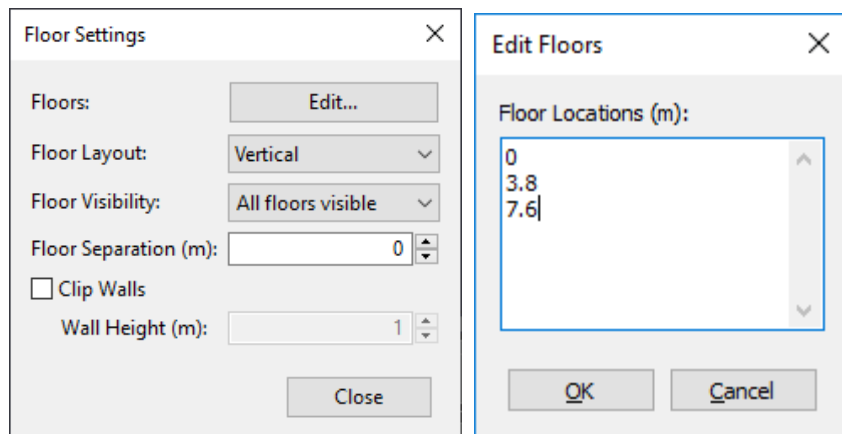

Figure 4-5: Floor Settings and Edit Floors dialogs
1. Press the **Edit Floor Settings** button () on the toolbar or in the **View** menu, select **Floor Settings**. This will open the **Floor Settings** dialog as shown in Figure 4-5.